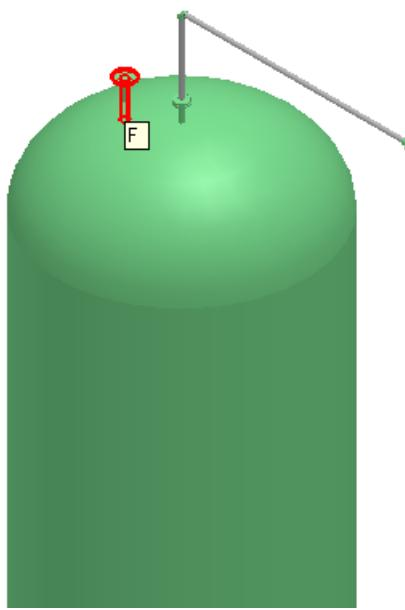

Figure 2: Nozzle F on Equipment T-101
1. Locate nozzle F on equipment T-101 in Unit U03 on which you will insert components and specialty items, as shown in Figure 2.